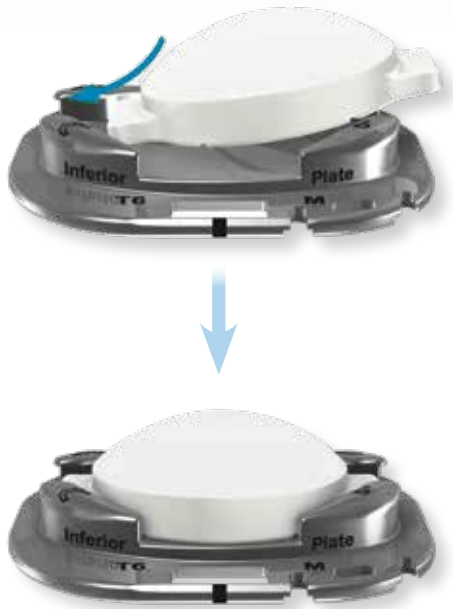

Figure 19
- Insert and secure the mobile insert between the stops of the inferior plate (**Figure 19**).